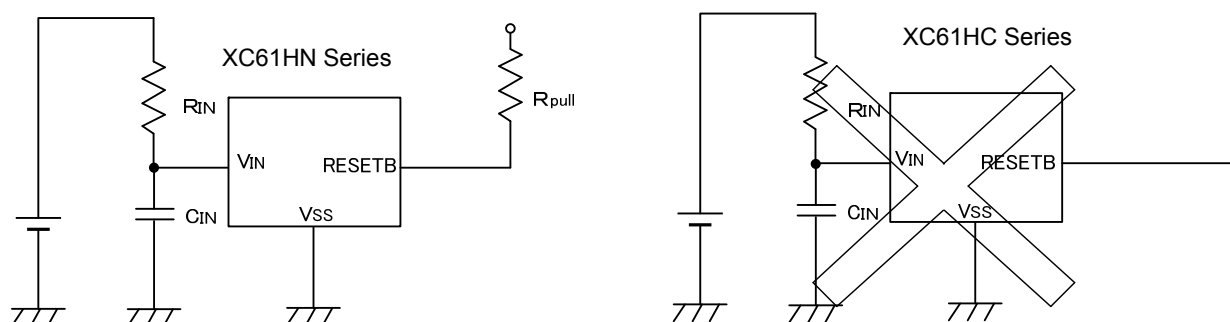

Figure 1 Use of input resistor  $R_{IN}$
2. When a resistor is connected between the  $V_{IN}$  pin and the input with CMOS output configurations, irregular oscillation may occur as a result of voltage drops at  $R_{IN}$  if load current ( $I_{OUT}$ ) exists. It is therefore recommend that no resistor be added. (refer to Figure 1 below)
3. When a resistor is connected between the  $V_{IN}$  pin and the input with CMOS output configurations, irrespective of N-ch output configurations, oscillation may occur as a result of shoot-through current at the time of voltage release even if load current ( $I_{OUT}$ ) does not exist. (refer to Figure 1 below)
Further, please ensure that  $R_{IN}$  is less than  $10k\Omega$  and that  $C_{IN}$  is more than  $0.1\mu F$  (Figure 1). In such cases, detect and release voltages will rise due to voltage drops at  $R_{IN}$  brought about by the IC's supply current.